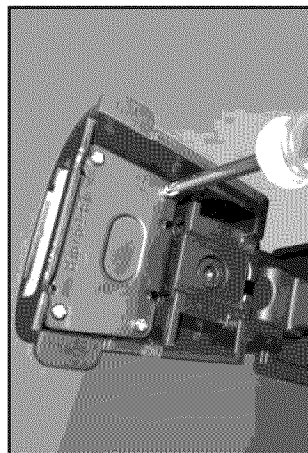

Figure 1
See Figure 1 & 2
- Loosen the four screws and remove the battery cover. (See Figure 1).